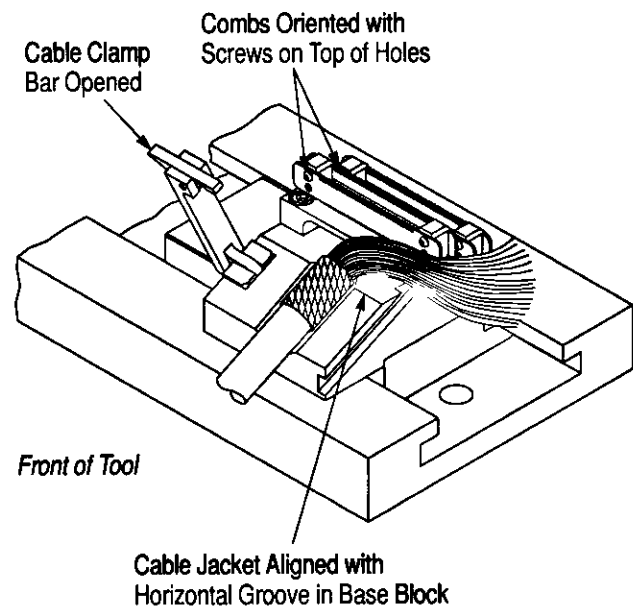

Figure 4
1. Place the wire combs on the comb holders on the wire loading subassembly, making sure that, facing the *front* of the tool, the button head cap screws in each comb are on top of the holes. See Figure 4.
3. Position the cable onto the base block, making sure that the cable jacket is aligned with the horizontal groove in the base block. See Figure 4.